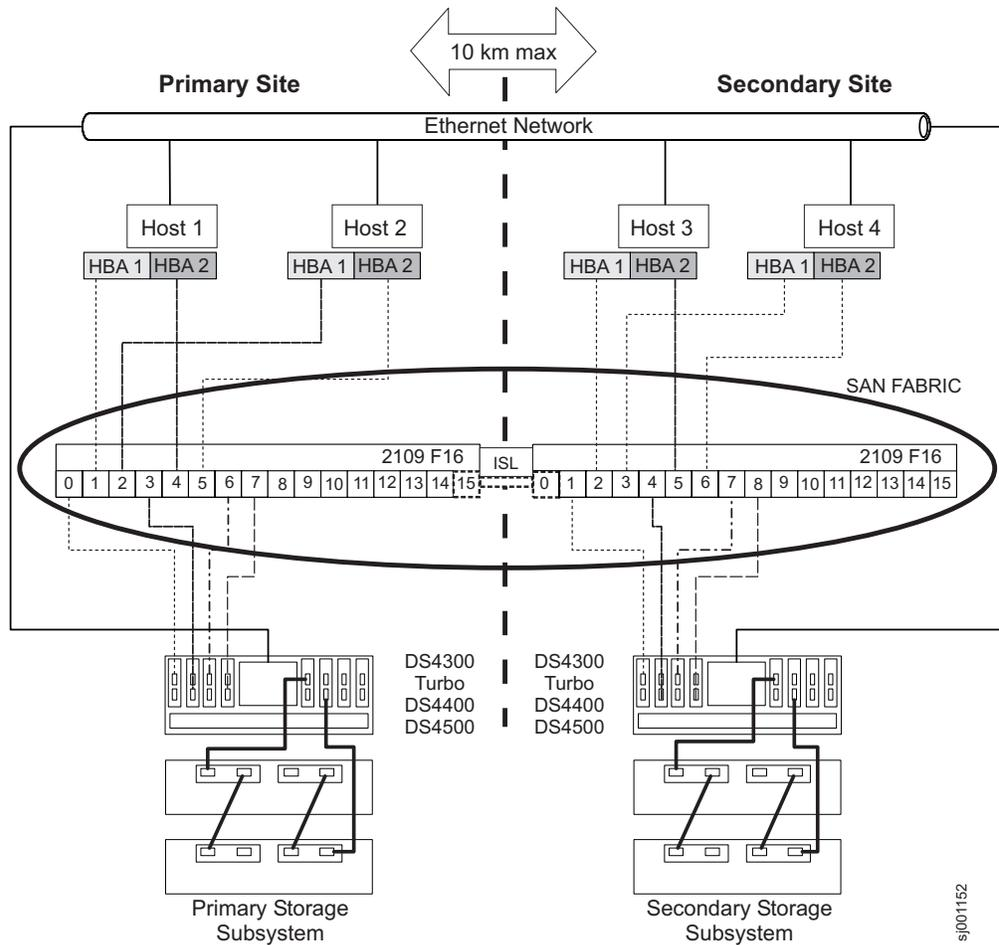

Figure 40. Campus configuration
The Campus configuration offers the same functionality as the Highest Availability Campus configuration, but contains only one switch at each site, rather than two. The configuration is still redundant for host bus adapters, controllers, and remote logical drive mirroring ports, but is a single point of failure for Fibre Channel switches. If a switch at either site fails, the Remote Mirror Option cannot function. For this reason, the Highest Availability Campus configuration is preferred for total environment redundancy. Figure 40 on page 122 shows the Campus configuration after installation is complete.
Important: The Fibre Channel switches in Figure 40 contain 16 ports each, which leaves many unused ports per switch. If you are performing switch zoning using the Fibre Channel host port number, instead of the WWNN of the SAN fabric logged-in ports, do not include Fibre Channel switch ports with no Fibre Channel connections in the zone definition. If you include these unused ports in your zones, unauthorized access to the SAN might result.
- Refer to Figure 40 on page 122 as you complete the steps in this procedure.